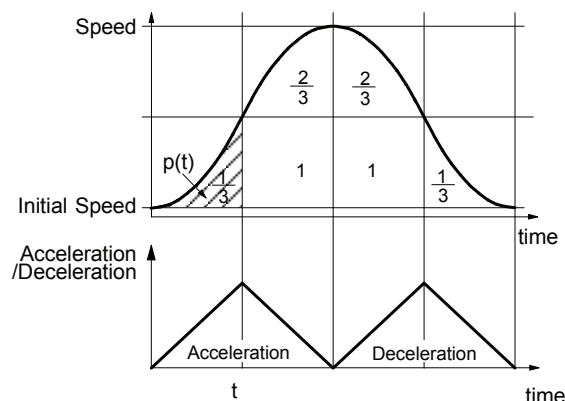

Fig. 2.13 The rule of 1/12 of Parabolic Acceleration/Deceleration
This IC creates an S curve by increasing/reducing acceleration/decelerations in a primary line at acceleration and deceleration of drive speed. Figure 2.13 shows the operation of S-curve acceleration/deceleration. When driving starts, the acceleration increases on a straight line at the specified jerk (K). In this case, the speed data forms a secondary parabolic curve (section a). When acceleration reaches designation value (A), acceleration is maintained. In this case, the speed data forms an increase on a straight line (section b).